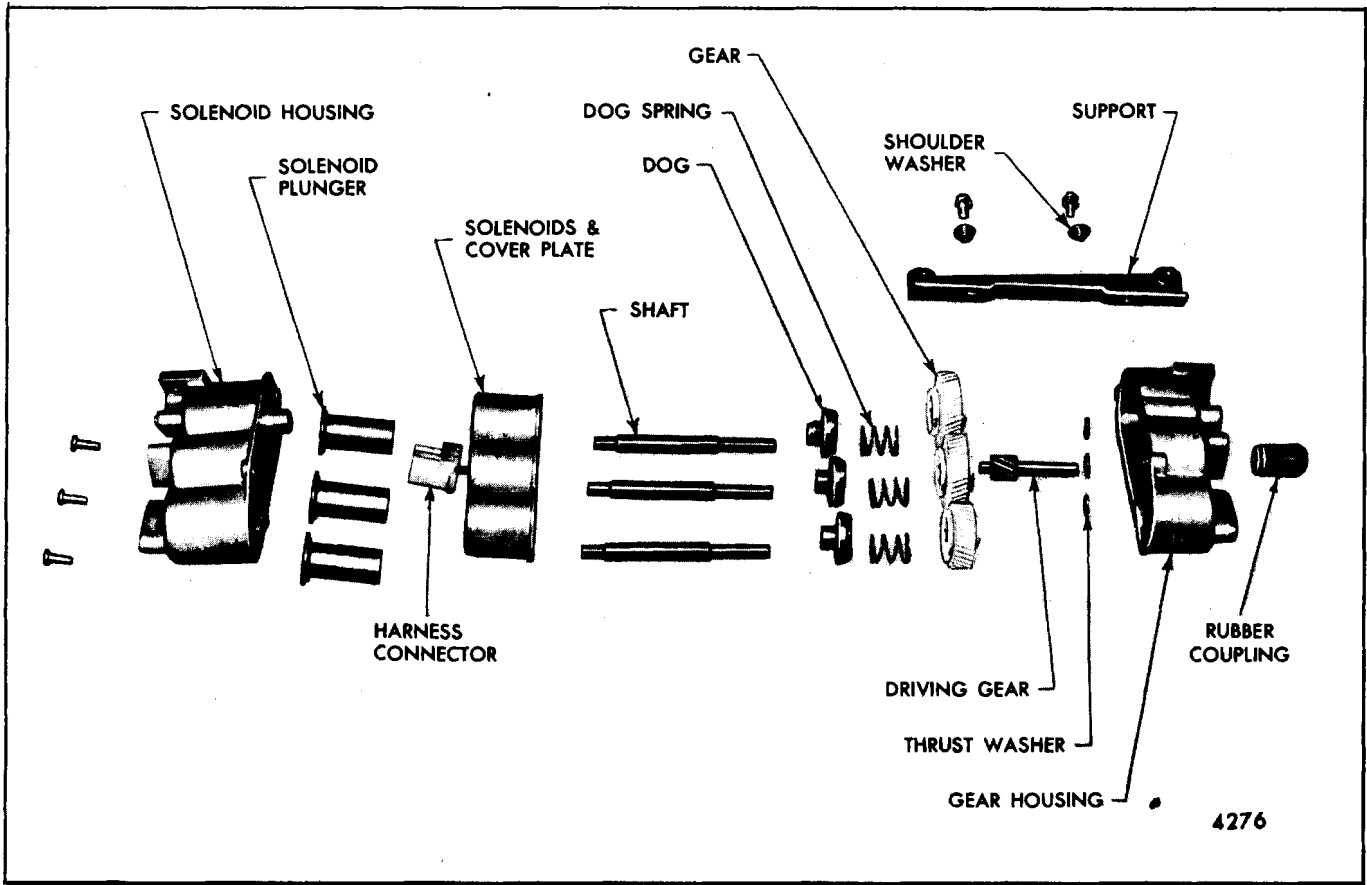

Fig. 14-20-Six-Way Seat Adjuster Transmission - "B and C" Full Width Seat
- Remove screws securing rear gear housing to the solenoid housing; then, carefully separate housings and remove component parts of transmission assembly (Fig. 14-20).